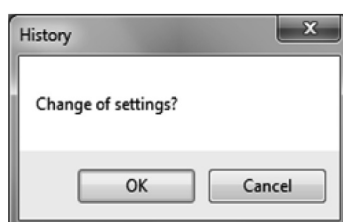

Fig.164
- ③ It is possible to display the total running time of the transmitter "Operating Time", as well as set the "History" setting, including second, minute, hour, day, month, and year. Also note that the changed date and other values are reflected in the log data. Note, however, that time stops while the power is off, so a discrepancy will arise.
- ④ After the setting is complete, click the "OK" button to display a message box (Fig. 164).